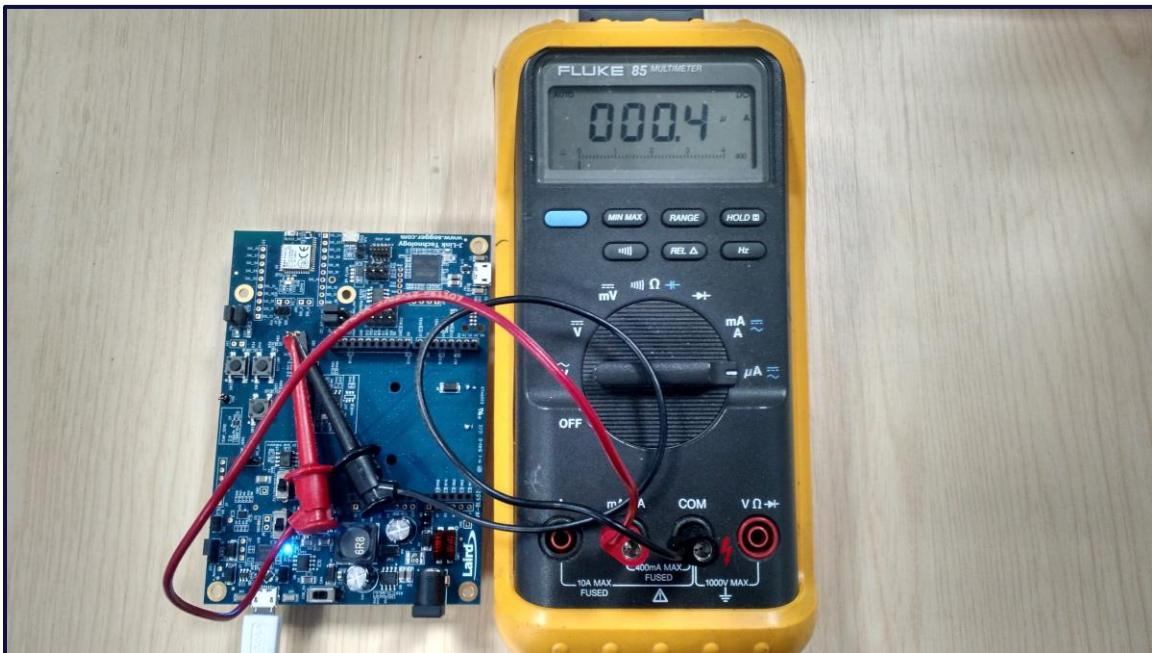

Figure 6: The current falls to about 0.4uA (400nA) when placed in deep sleep mode
5. Through the current measuring DMM, current should fall to about 0.4uA (Figure 6).